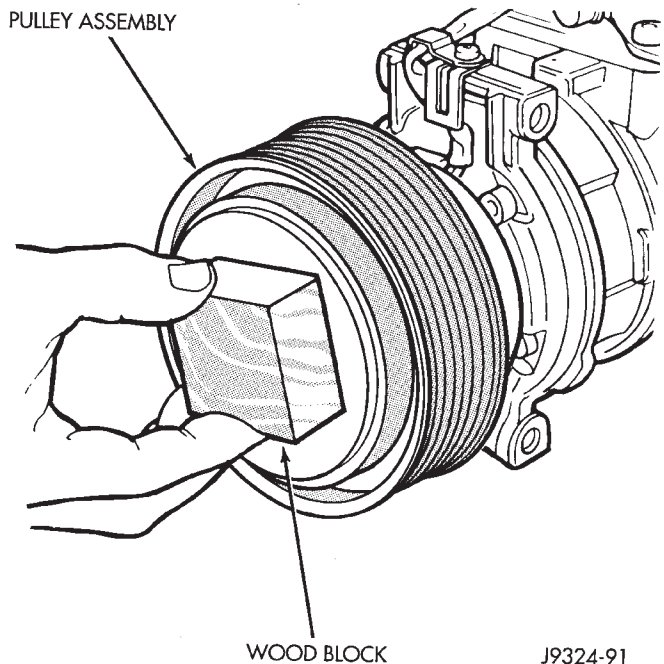

Fig. 35 Pulley Assembly Install
(4) Install the pulley assembly onto the compressor. If necessary, place a block of wood on the friction surface and tap gently with a hammer (Fig. 35).